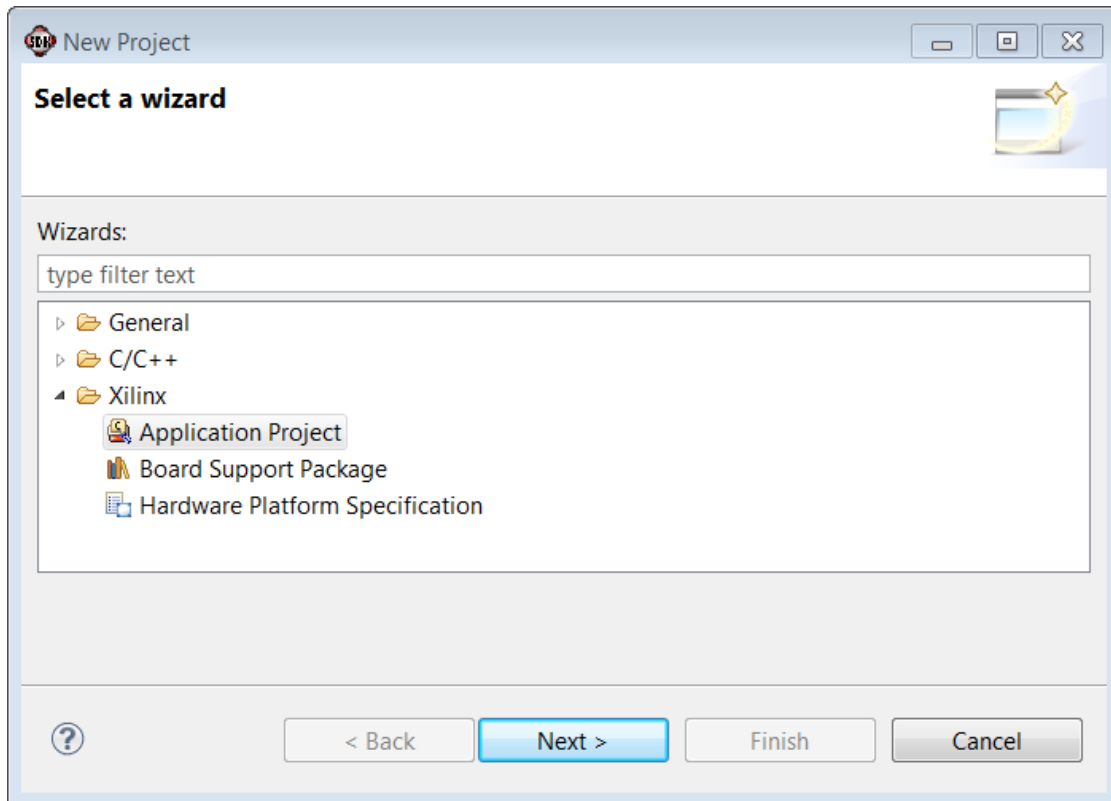

Figure 125: SDK New Project Wizard
2. In the New Project dialog box, select **Xilinx Application Project** (FIGURE 125).